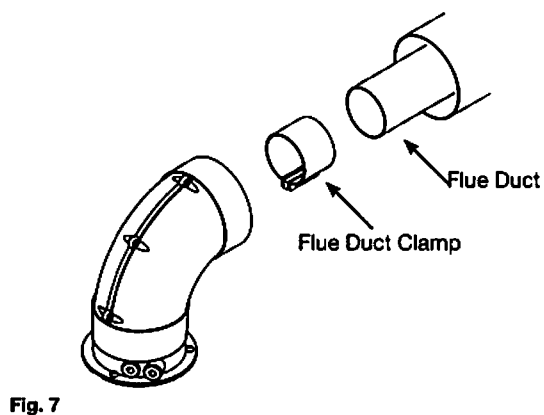

Fig. 7
10. Locate the flue duct clamp on the flue outlet elbow. Draw the flue duct out of the air duct, engage it in the clamp and tighten the screws (Fig. 7).